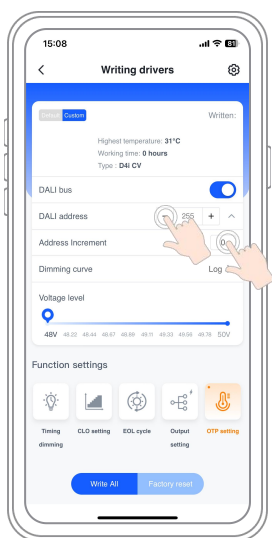

Figure 1
1. **DALI address:** Click the "+" or "-" sign of DALI address in the main page to set the address, and click the value box in the middle to input the value 0~63; 255 (255 means delete address).(Figure 1)
2. **Address Increment:** There is an arrow symbol next to the DALI address, click on it to collapse or expand the address auto-increment setting below, input the value 0~10 to auto-increment the address after successful writing. 0 is to close the auto-increment.(Figure 1)